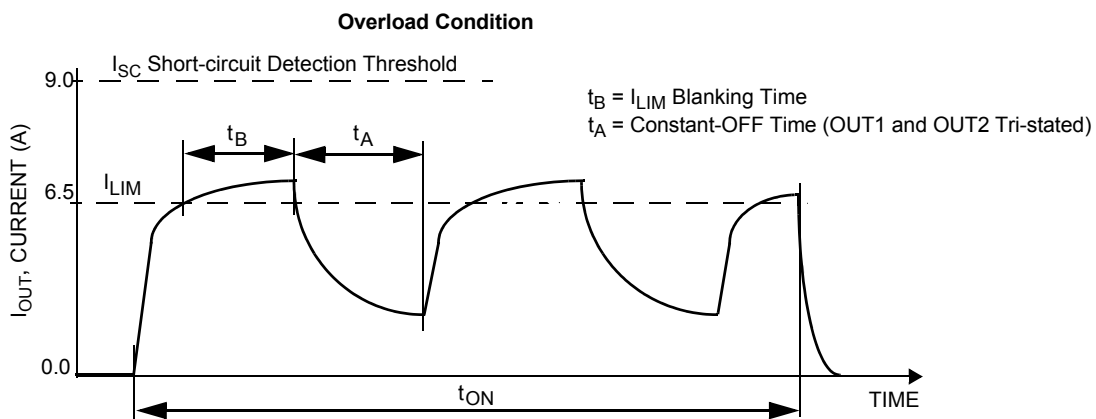
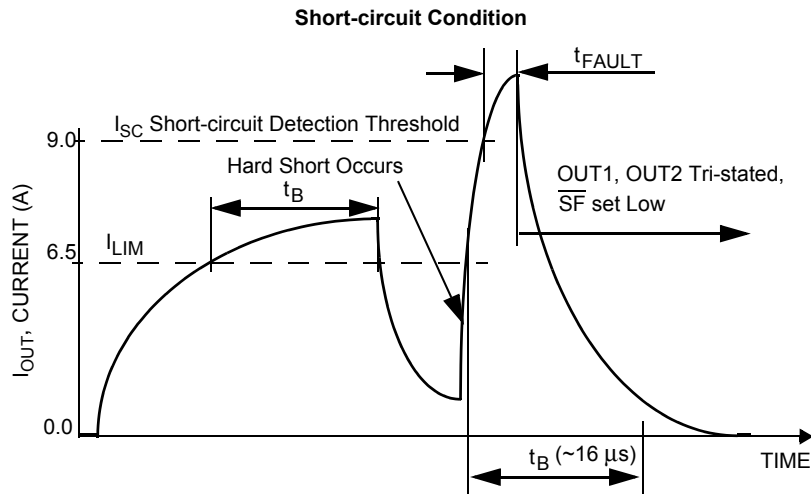
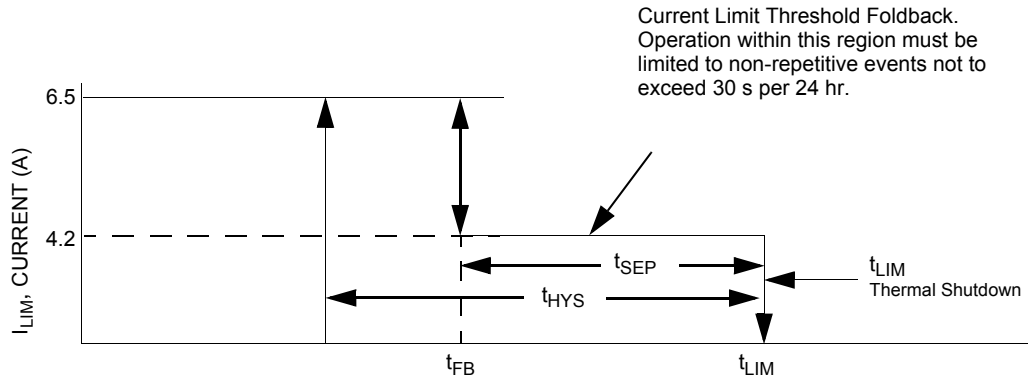

Figure 7. Current limit blanking time and constant-off time
Figure 8. Short-circuit detection turn-off time t_{FAULT}
Figure 9. Output current limiting foldback region
28. Load currents ramping up to the current regulation threshold become limited at the I_{LIM} value (see Figure 7). The short-circuit currents possess a di/dt which ramps up to the I_{SCH} or I_{SCL} threshold during the I_{LIM} blanking time, registering as a short-circuit event detection and causing the shutdown circuitry to force the output into an immediate tri-state latch-OFF (see Figure 8). Operation in Current Limit mode may cause junction temperatures to rise. Junction temperatures above $\sim 160\text{ }^\circ\text{C}$ causes the output current limit threshold to “fold back”, or decrease, until $\sim 175\text{ }^\circ\text{C}$ is reached, after which the t_{LIM} thermal latch-OFF occurs. Permissible operation within this fold back region is limited to non-repetitive transient events of duration not to exceed 30 seconds (see Figure 9).